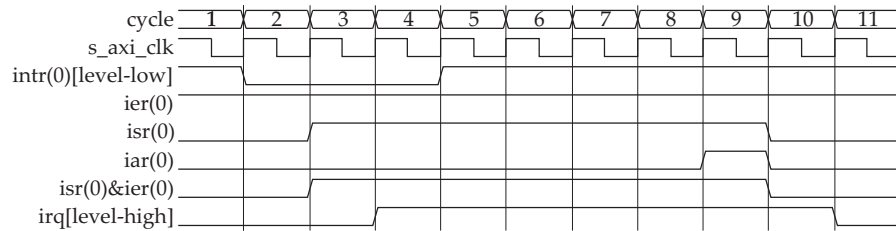

Figure 17: Input Intr - Level Sensitive (Active Low) and Output Irq - Level Sensitive (Active High)
7. Configured Input Interrupt (Intr) for Level sensitive (active Low) and Output Interrupt Request (Irq) to Level sensitive (active High) and is shown in Figure 17.